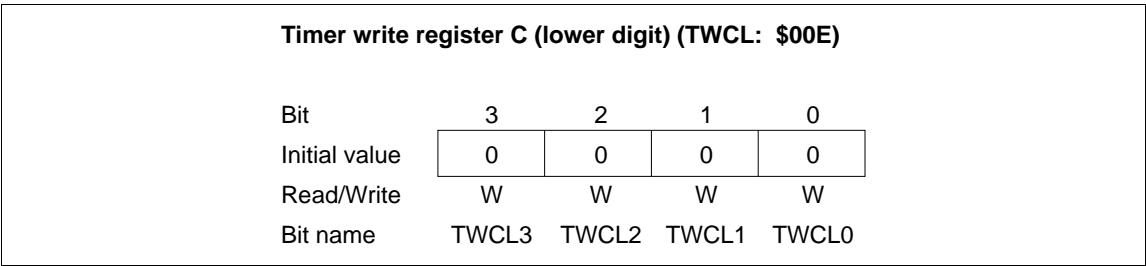

Figure 45 Timer Write Register C Lower Digit (TWCL)
- Timer write register C (TWCL: \$00E, TWCU: \$00F): Write-only register consisting of the lower digit (TWCL) and the upper digit (TWCU) as shown in figures 45 and 46. The operation of timer write register C is basically the same as that of timer write register B (TWBL: \$00A, TWBU: \$00B).